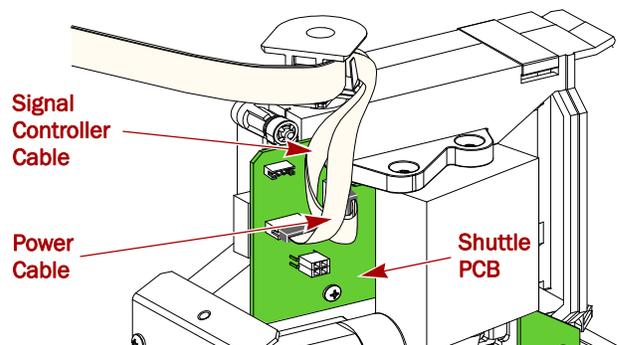

Figure 1. Front View of Shuttle Cables
3. Remove the **Power and Signal Controller cables** from the shuttle assembly by releasing them from the two clips that secure them to the printed circuit board (PCB) on the shuttle (**Figure 1**).